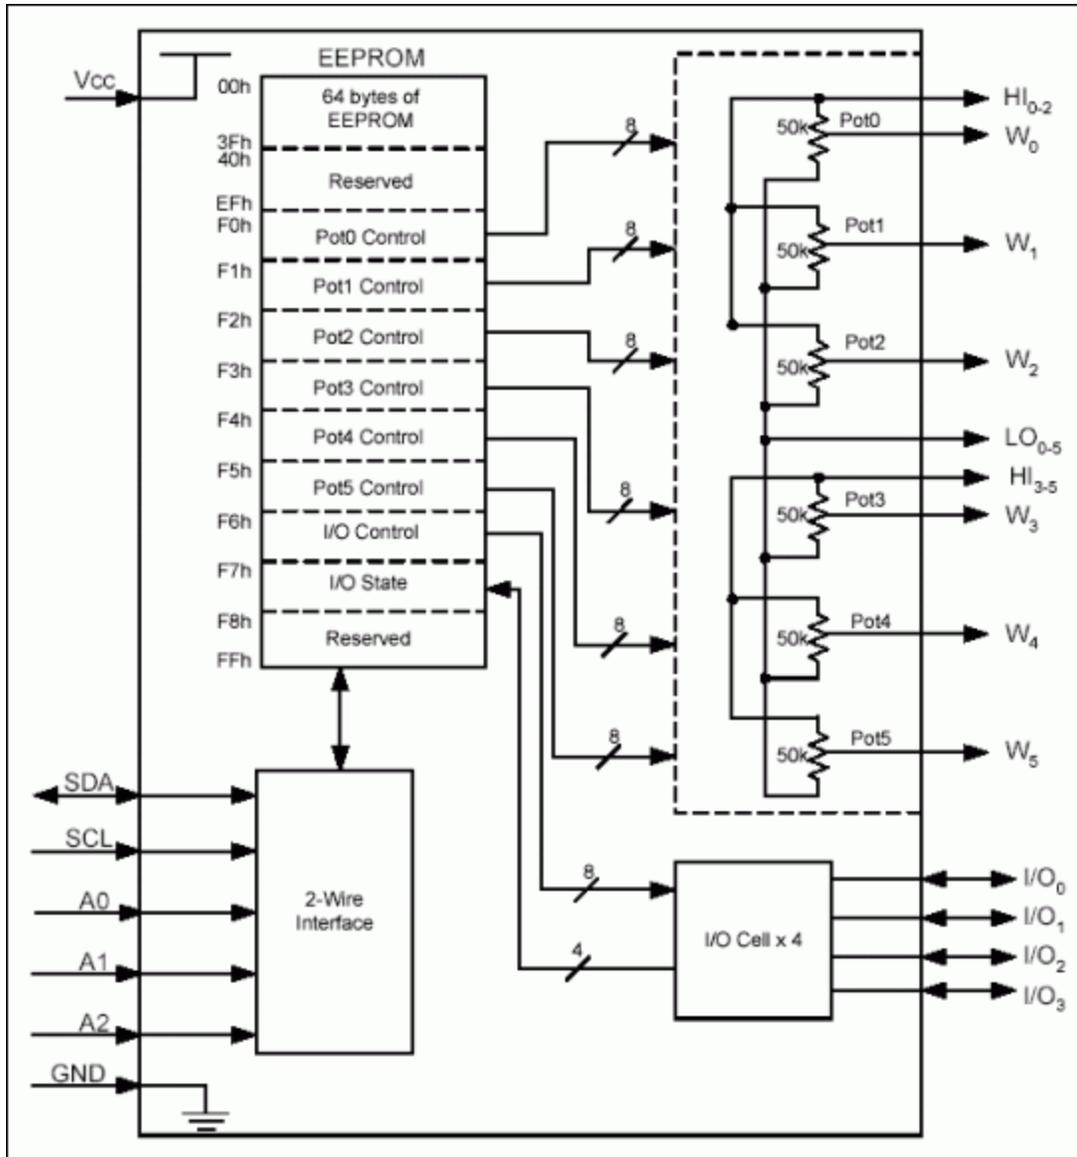

Figure 1. DS3930 block diagram.
The DS3930 contains six 256-position nonvolatile (NV) potentiometers (see **Figure 1**), which makes the DS3930 an ideal device for applications needing multiple voltage references. All six potentiometers share a common low side. The potentiometers are separated into two groups of three 50k Ω potentiometers in parallel. Each group of three shares a common high side. The potentiometer wiper voltage can vary between 0V and V_{HI} in 256 steps, where V_{HI} is the voltage on HI₀₋₂ or HI₃₋₅.